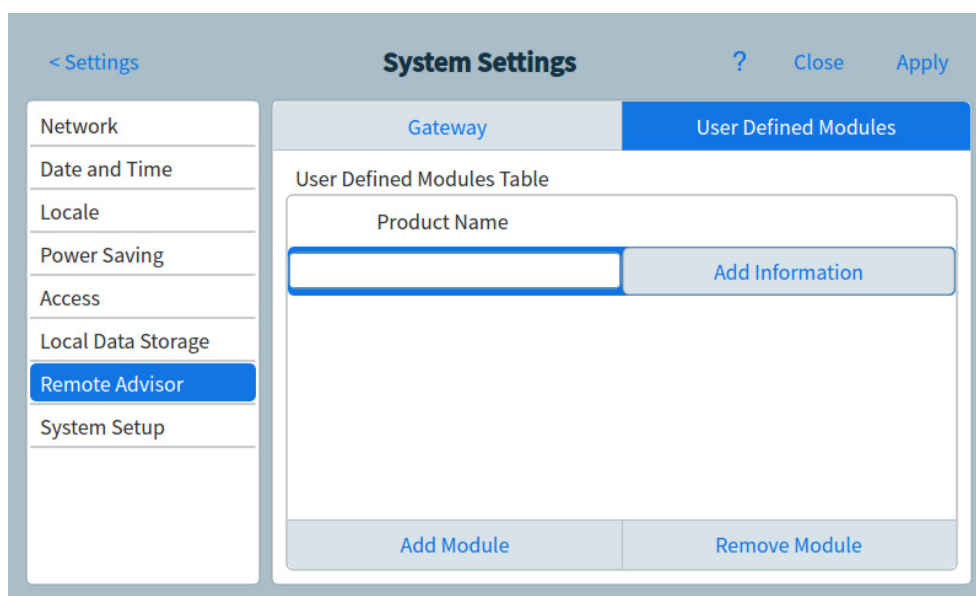

Figure 50 Remote Advisor page - Add Information
- b Press **Add Module**. A Product Name entry line appears. See Figure 50.